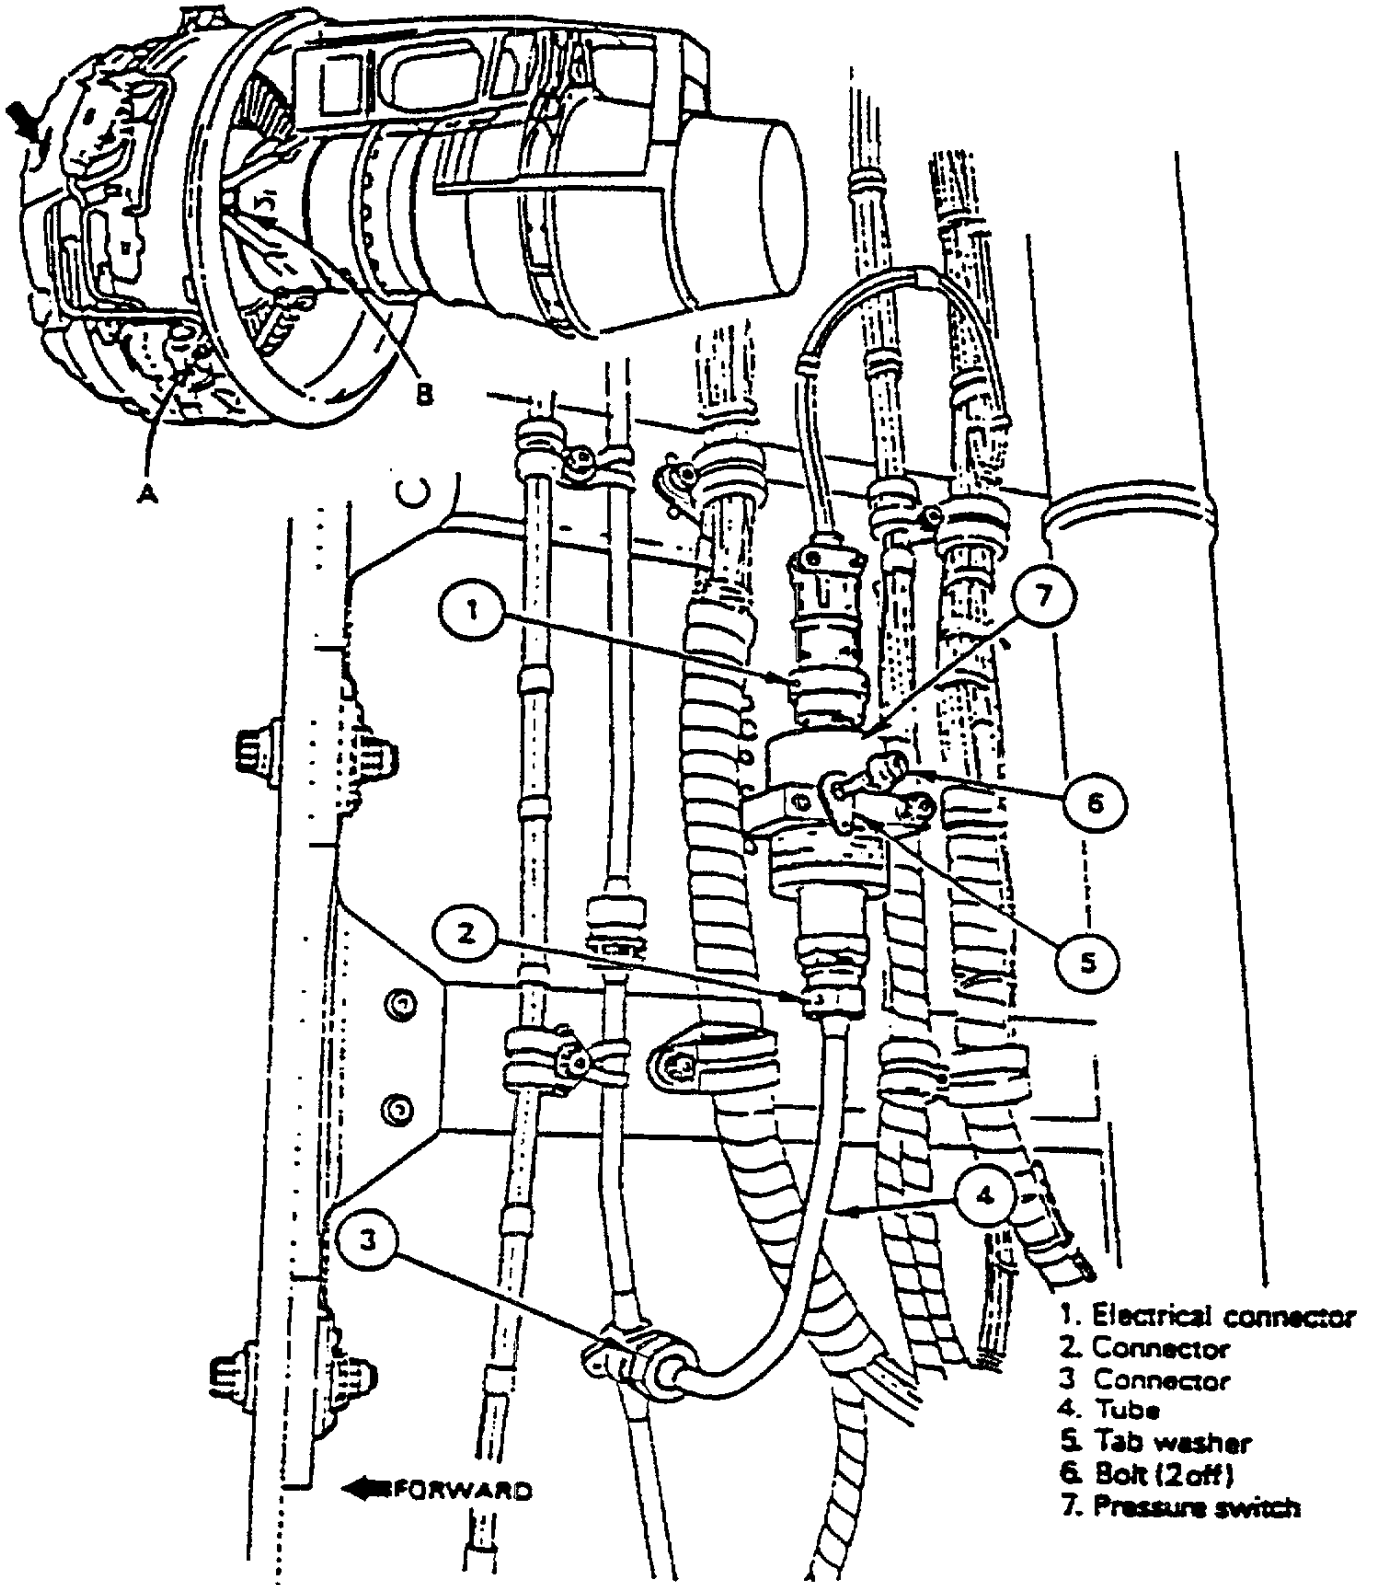

FIGURE 1
MM 73-21-23 FIGURE 1 541M7304
(SEE FIGURE 1)
VALVE SOLENOID, POSITIONED AT ARROW A, FIGURE 1.
CONNECTORS (3) AND (2), THEN WIRELOCK. (SEE FIGURE 1)